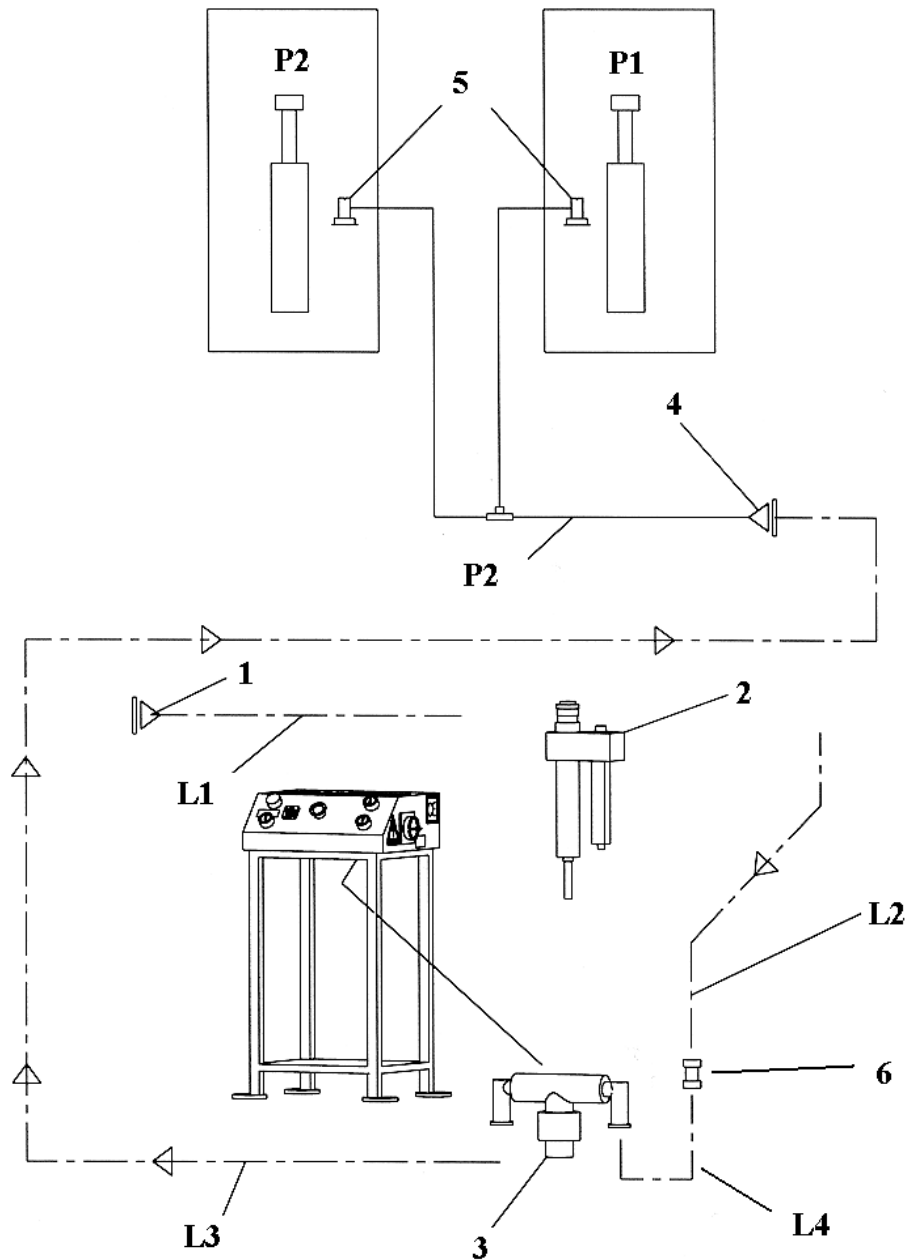

Figure 7 - Pneumatics Installation
2. Connect the pneumatic lines (pre-assembled on the runways) to the control desk according to the colour markings (see Figure 7).
NOTE: Use the ¼" Polytube Adapter (Figure 7, Item 6) to join the supply line (L2) to L4 (12" (300mm) piece sliced from L3 - Accessory Box).